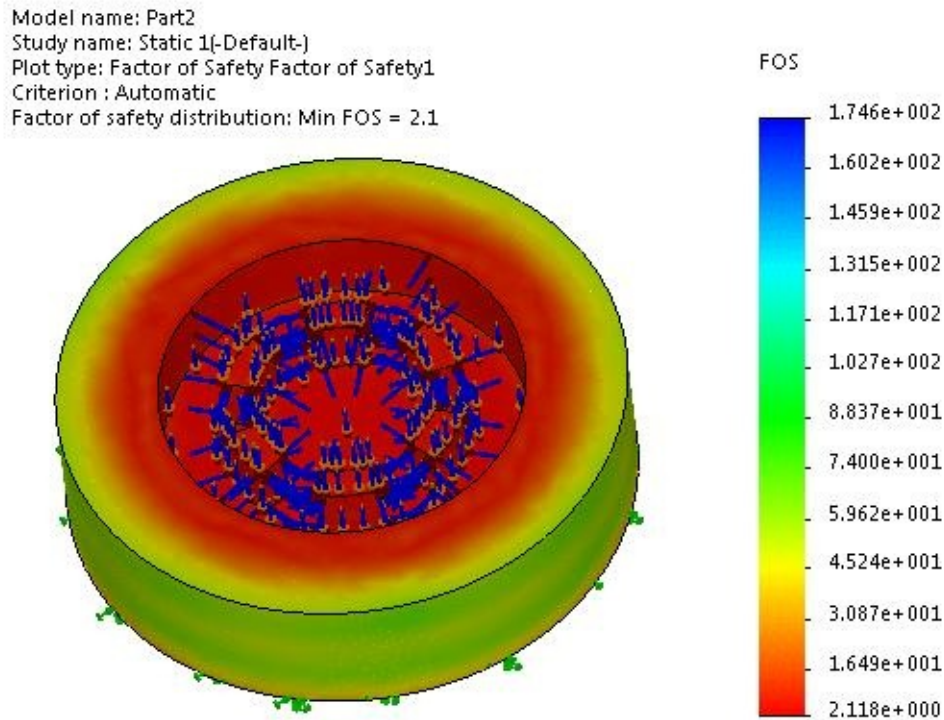

Figure-10. Factor of Safety plot
- Click on the **OK** button from the **PropertyManager**. The **Factor of Safety** plot will be displayed; refer to Figure-10.